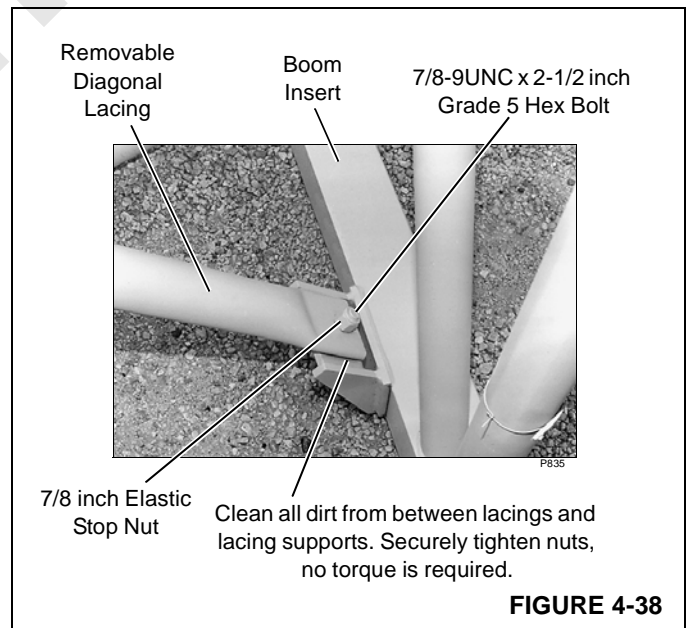

FIGURE 4-38
2. Reinstall proper number of removable lacings in each insert with bolts and stop nuts as shown in Figure 4-38.